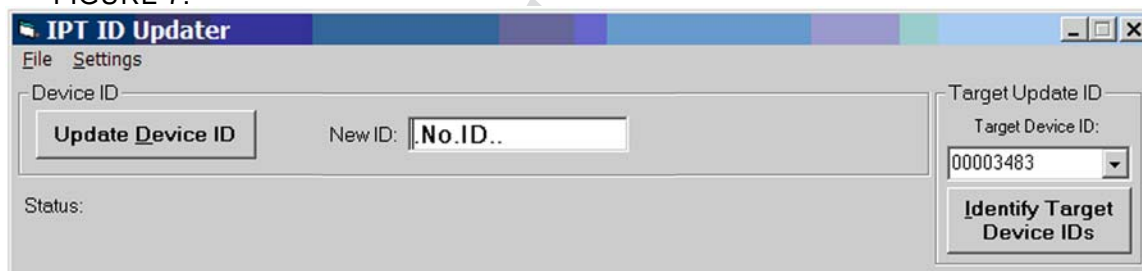

FIGURE 7
1. Select "Write Tag ID." After a few seconds, the screen will display the screen shown in FIGURE 7.